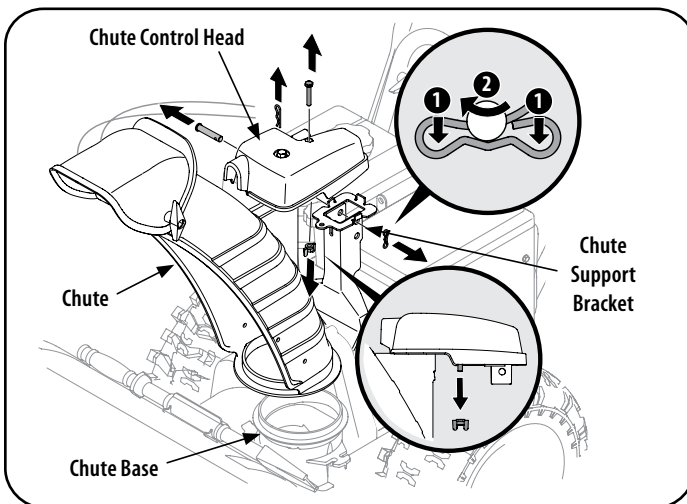

Figure 27
1. Remove cotter pin, wing nut, and hex screw from chute control head and clevis pin and bow-tie cotter pin from chute support bracket. See Figure 27.